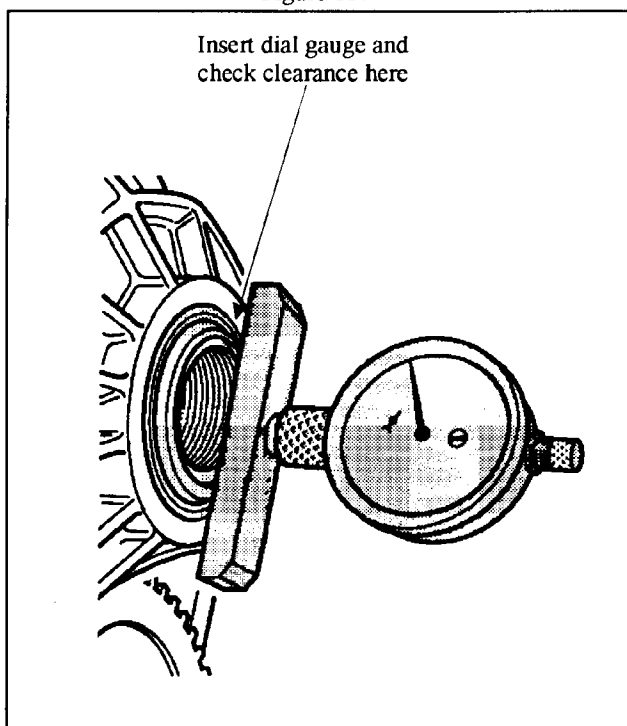

Figure 118
4. Measure the distance between drive gear and tapered roller bearing inner race (See Figure 118).